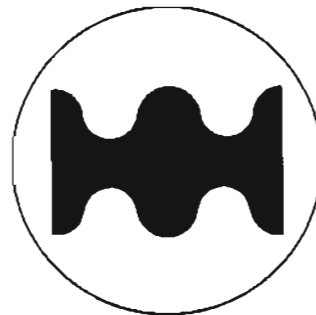

Figure 5-15. Pattern on 140 Oscilloscope at 50% Modulation
b. Increase MODULATION control until peak-to-peak pattern is 6 cm high, as shown in Figure 5-15. Adjust R104 (METER CAL on rear panel) for a reading of 50% on the PERCENT MODULATION meter.